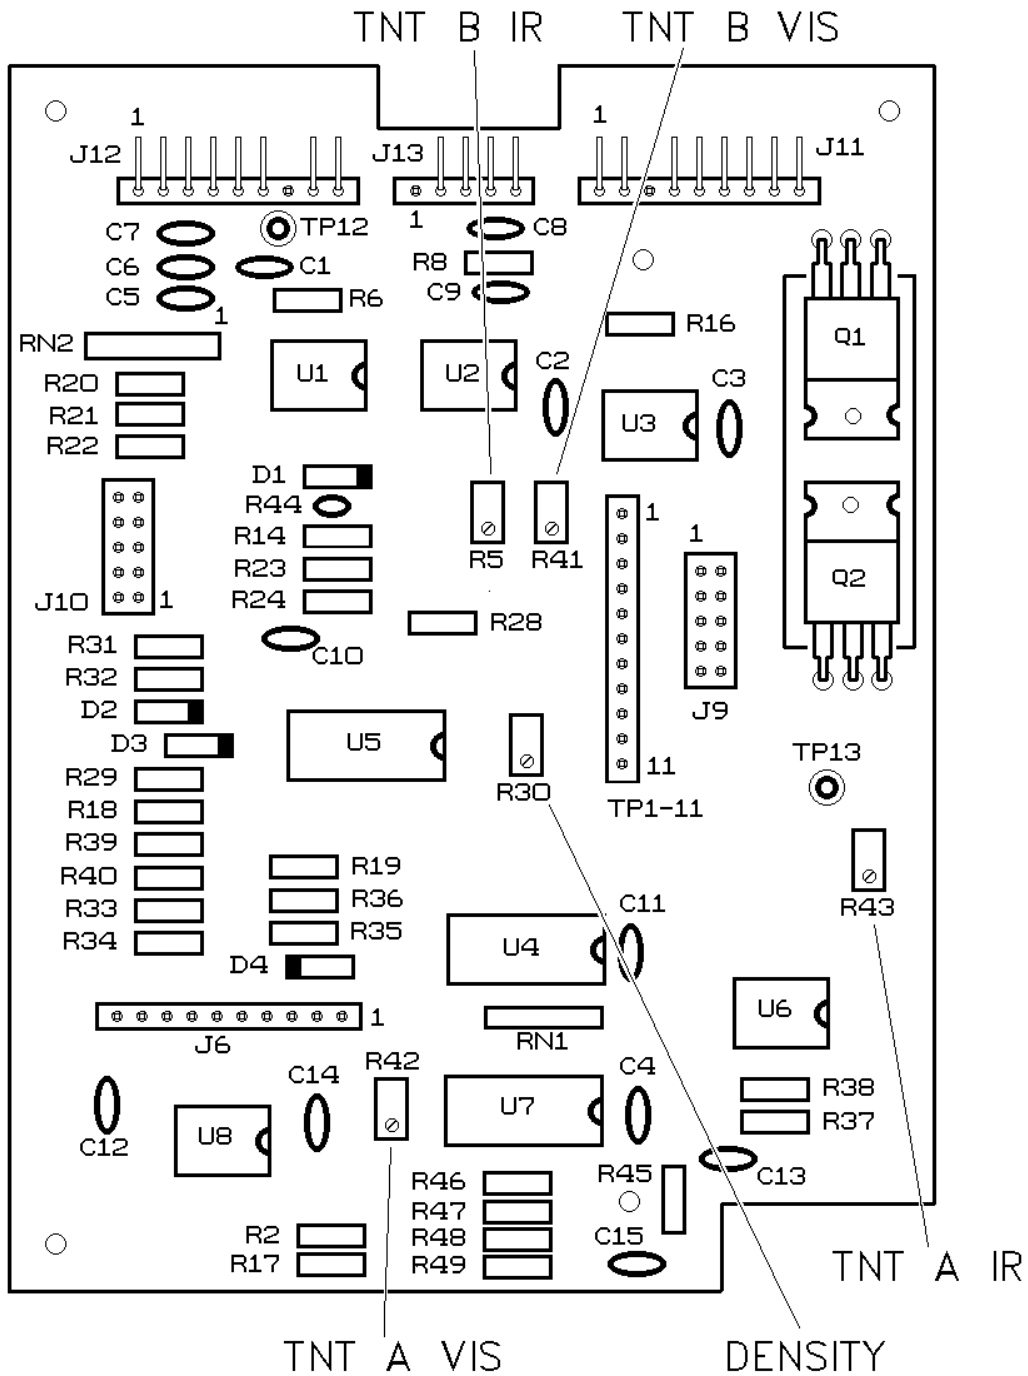

Figure 8-2
5. Refer to Figure 8-2, Sensor Board, and locate the 11-pin test point bank TP1-TP11. Test point #1 is labeled on the sensor board with a "1". Test point TP11 is system ground.